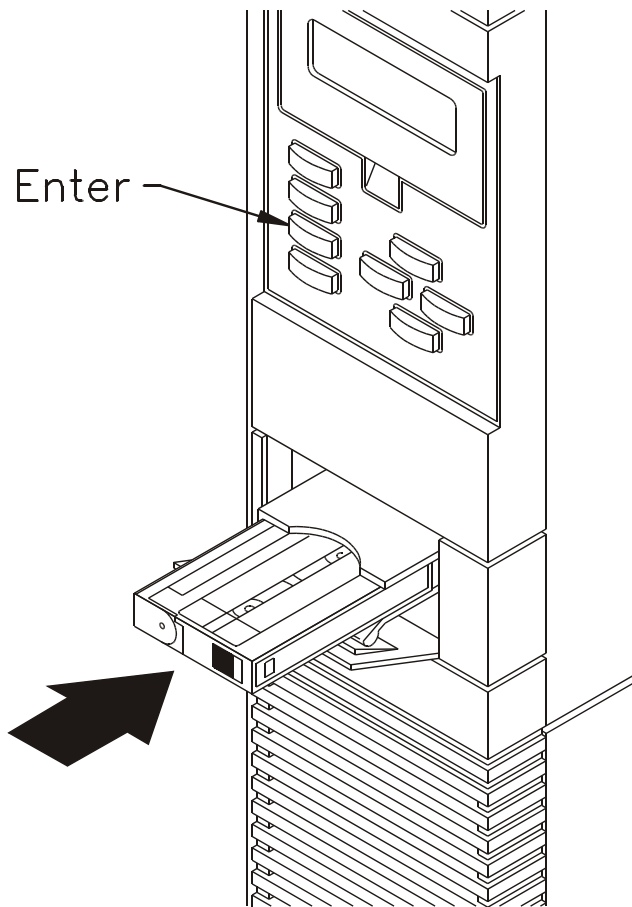

Figure 4-2 Inserting a cartridge into the entry/exit port
3. Insert the cartridge into the entry/exit port and press **Enter**, as shown in Figure 4-2. Or, remove a cartridge by pressing down on the entry/exit port PUSH tab, as shown in Figure 4-3.
9. Insert the cartridge in the entry/exit port with the cartridge door flap to the left and press **Enter** (see Figure 4-2 on page 57).